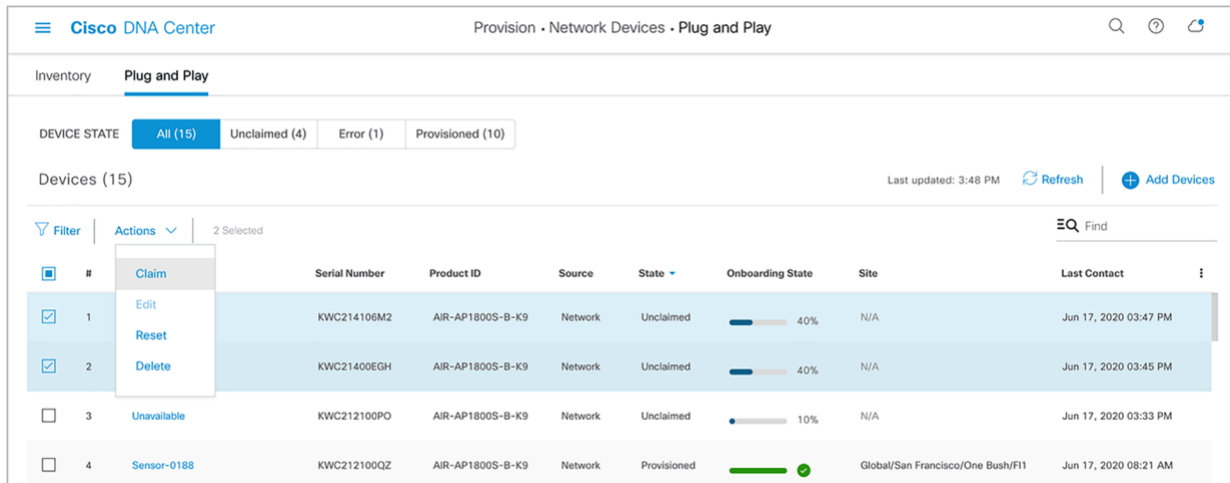

Figure 42.
- d. After you change the sensor name, your sensor is ready to be provisioned. Select the sensor from the list of unclaimed devices and click Claim in the Actions drop-down menu (**Figure 42.**).